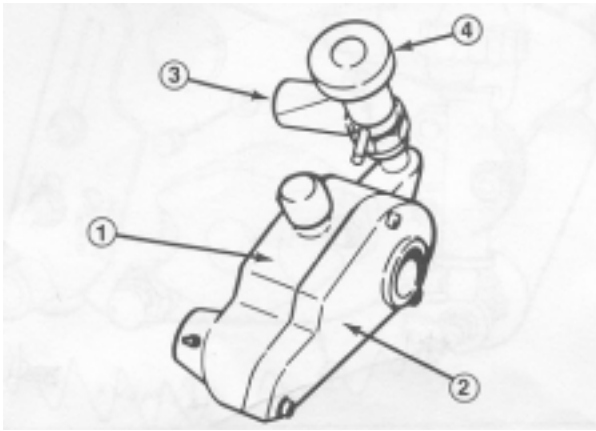

Figure 7
- A. Remove the housing assembly cover (Fig. 7).
B. Disassemble the adjustment knob assembly and separate the mounting block from the assembly (Fig. 7). Discard cotter pin (pin for shipping purpose only).